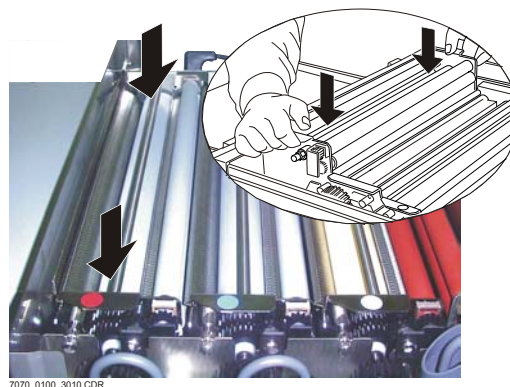

Fig. 6
- Carefully put the racks back into the corresponding tanks (Fig. 6).